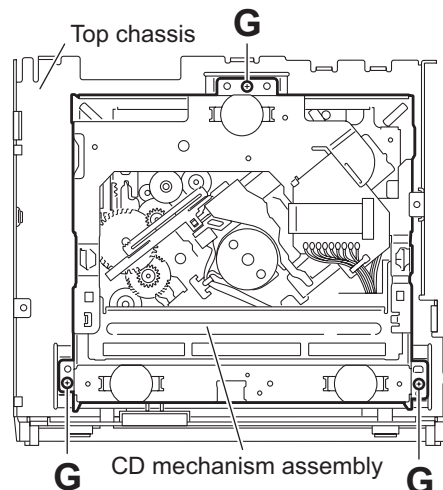

Fig.10
3.1.6 Removing the CD mechanism assembly (See Fig.10)
3.2.5 Removing the clamper assembly (See Figs.10 and 11)